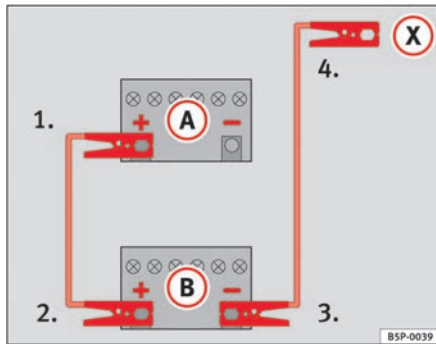

Fig. 176 How to connect the jump leads
⇒ fig. 176 **A** shows the flat battery and **B** the charged battery.
1. Connect one end of the red jump lead to the positive ⇒ fig. 176 terminal of the vehicle with the flat battery ⇒ .